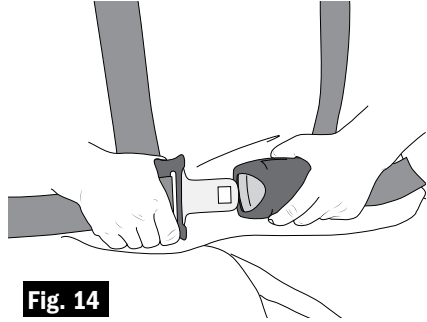

Fig. 14
- b. Insert tongue into buckle until you hear a **CLICK**. (Fig. 14)